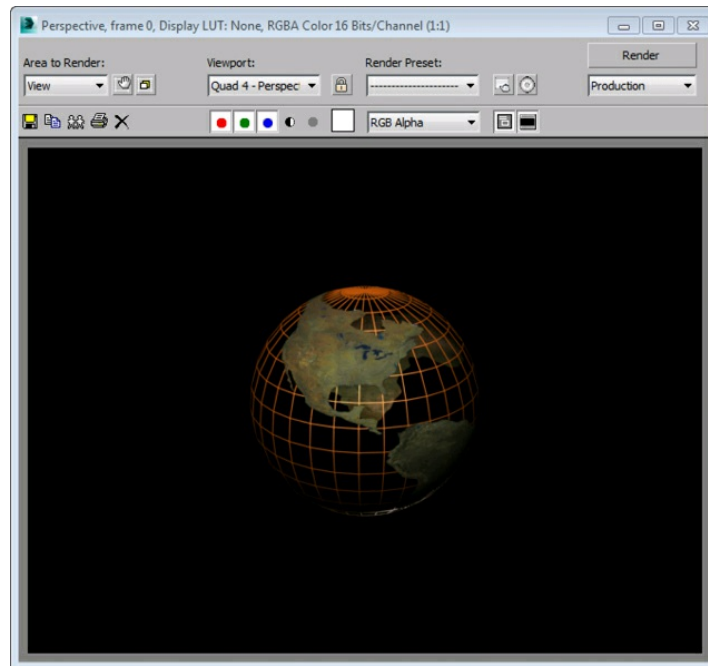

Figure 14-45 The sphere at rendering
23. Activate the Perspective viewport. Choose the **Render Production** tool from the **Main Toolbar**; the rendered sphere is displayed in the **Rendered Frame** window, as shown in Figure 14-45.